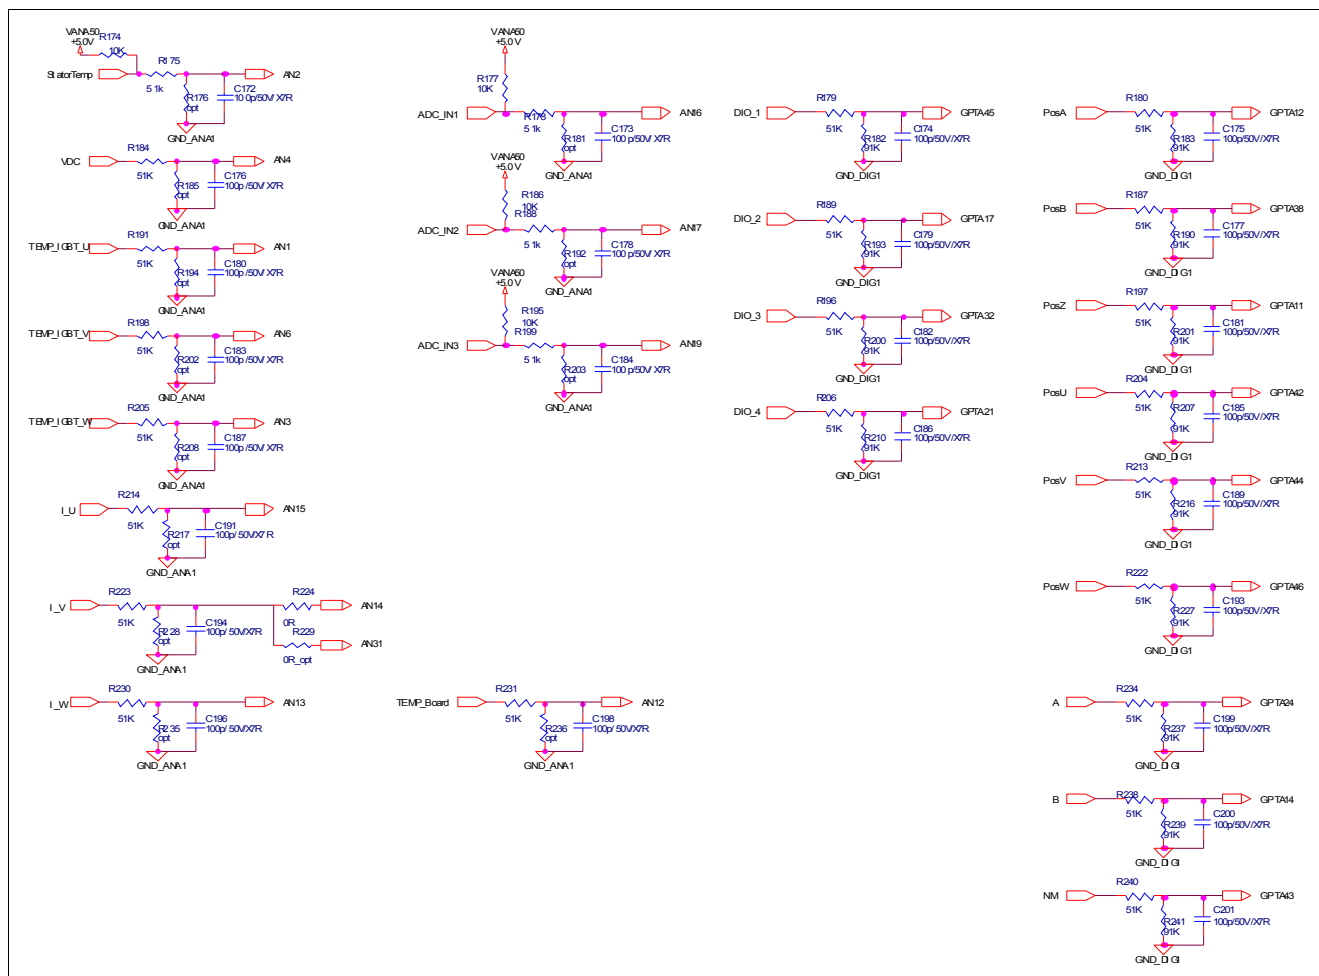
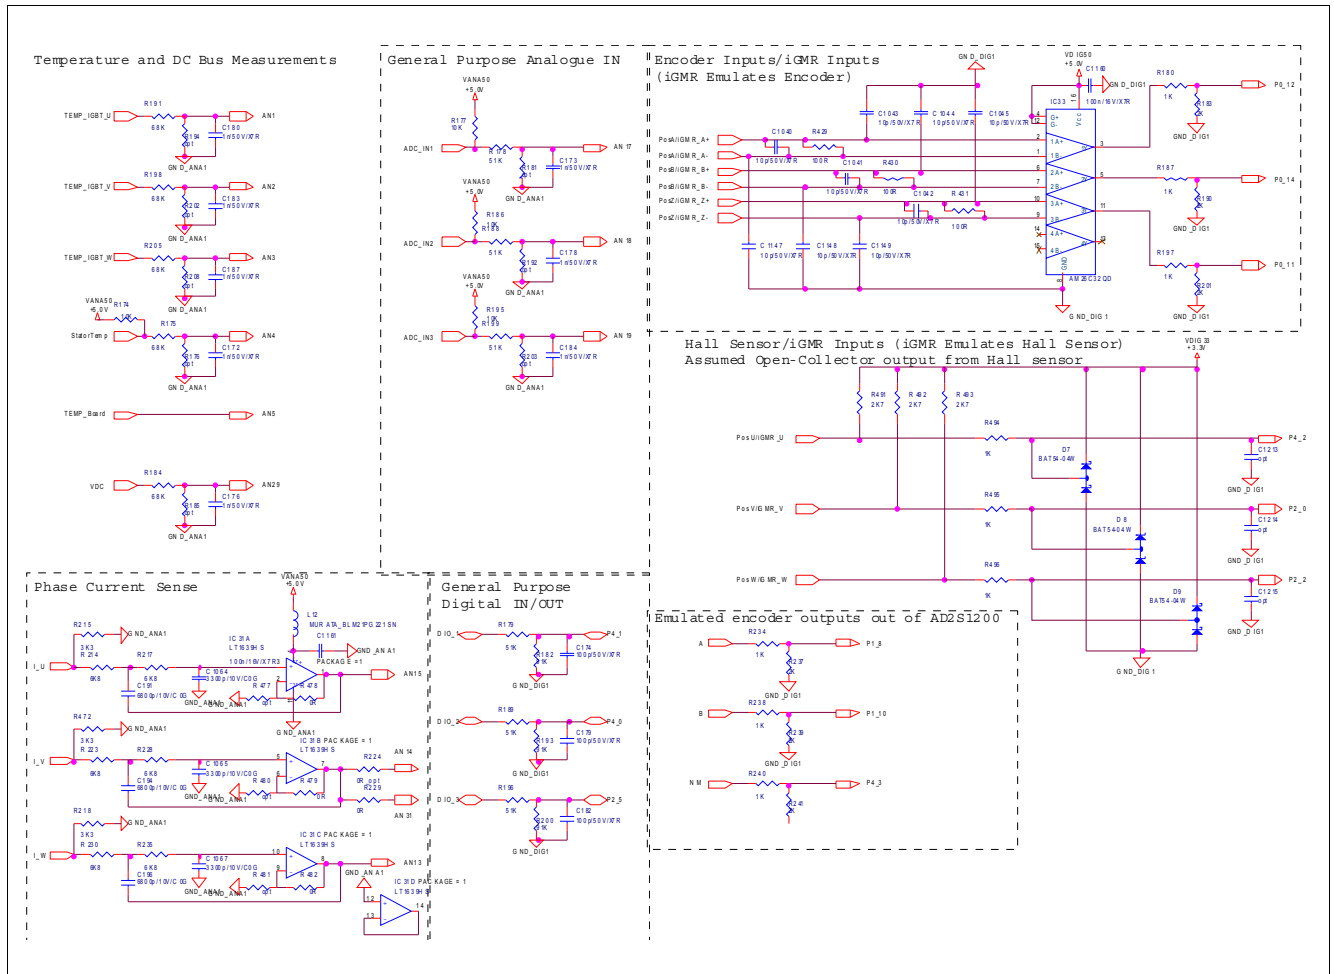

Figure 73 Input Filter Logic Board v1.2
Figure 74 Input Filter Logic Board v1.3b
- Input filter (see Figure 73 for Logic Board v1.2 and Figure 74 for Logic Board v1.3b): passive filters for digital and analogue signals and voltage dividers for voltage level adaptation;
Phase current sensing signals should be connected to the Logic Board connector X1-SIG1/K2 to the pins I_U, I_V and I_W (Figure 73 for the Logic Board v1.2 and Figure 74 for the Logic Board v1.3b). The Logic Board is designed to work with current transducers (not provided with the Hybrid Kit) with voltage output proportional to the current (usually deploying Hall effect - like LEM sensors). User can take +5V (analog) available on the X1-SIG1/K2 pins to supply current transducers. The exact type of current transducer will be depend on many parameters in application, but usually the most important is the motor current consumption. Please notice that if you control 3-phase balanced synchronous system it is enough to measure just 2 phases, since the 3rd phase current can be calculated as algebraic combination out of the 2 measured currents.
TLE5012 supports Hall sensor interface mode as well (iGMR emulates Hall sensor mode). For this purpose to the connector X1-SIG/K2 inputs PosU/iGMR_U (phase U), PosV/iGMR_V (phase V) and PosW/iGMR_W (phase W) should be connected. Please notice (on Figure 74) that the pull-up resistors to 3.3V (R491, R492 and R493) are already provided on the Logic Board. For more details on Hall sensor mode please refer to the TLE5012 data sheet.